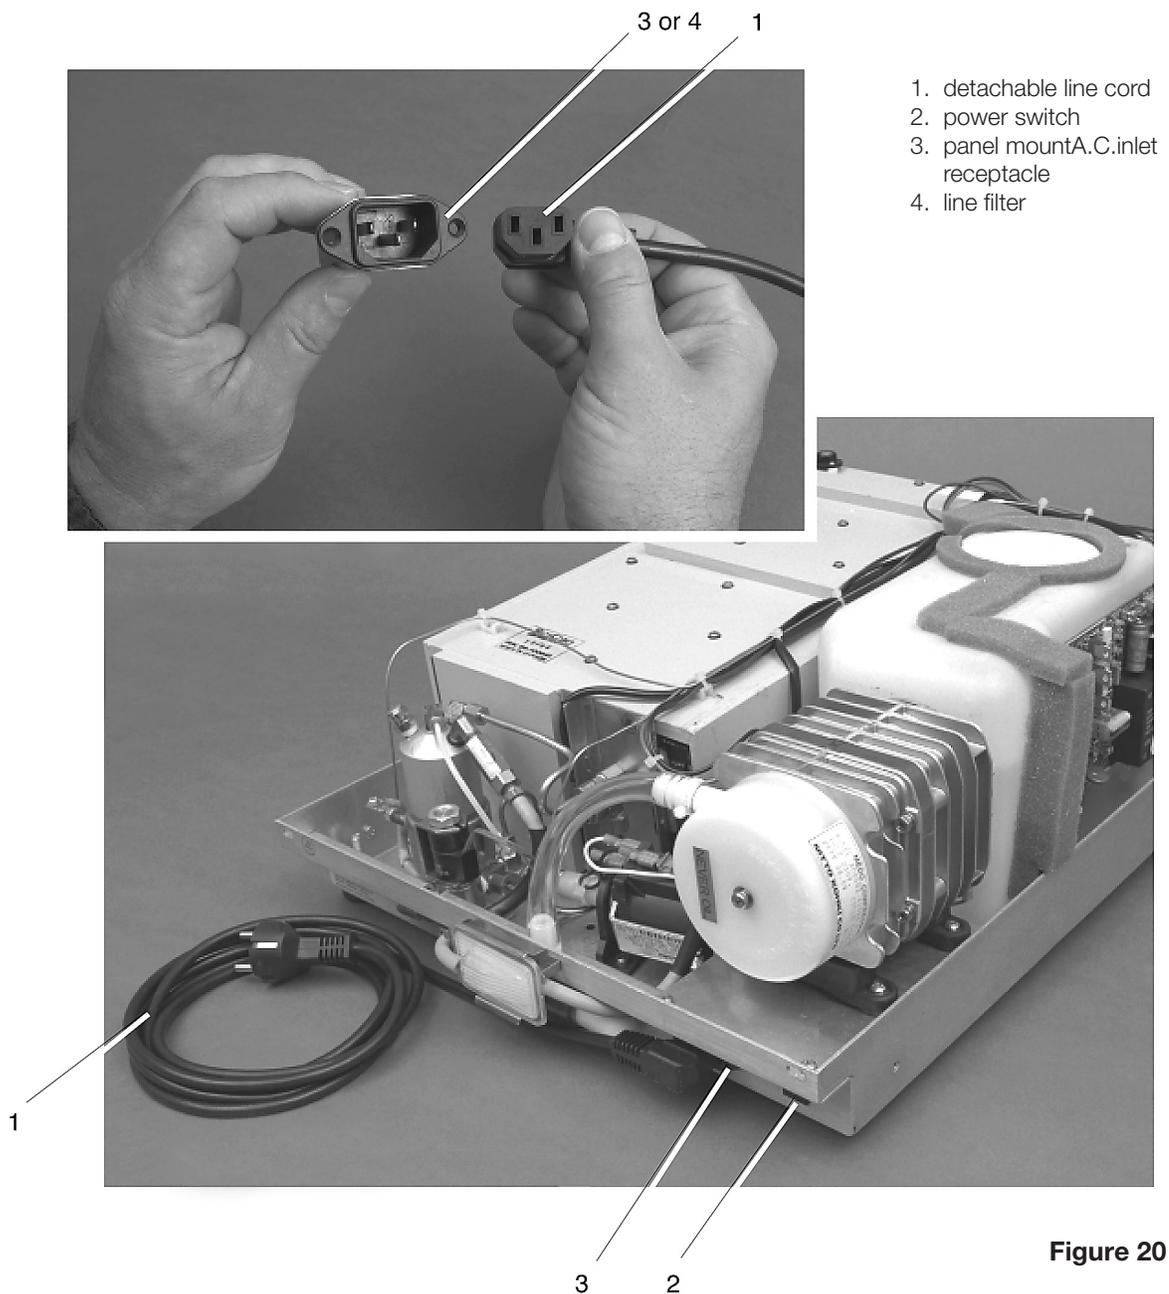

Figure 20
To remove a detachable power cord (1) connected to the unit through a panel mount A.C. inlet receptacle, proceed as follows (see Figure 20):
1. Turn the power switch (2) OFF, and unplug the power cord from the wall outlet.
2. Disconnect the power cord from the panel mount A.C. inlet receptacle (3).
To replace/reinstall a detachable power cord (1), proceed as follows (see Figure 20):
2. The A.C. inlet receptacle (3) is keyed. Note the shape of the cord connector and the corresponding shape of the receptacle. Plug in the connector.
3. Plug the cord into the wall receptacle and turn the power switch (2) ON. Observe the LCD and indicator lights to determine that power is present.